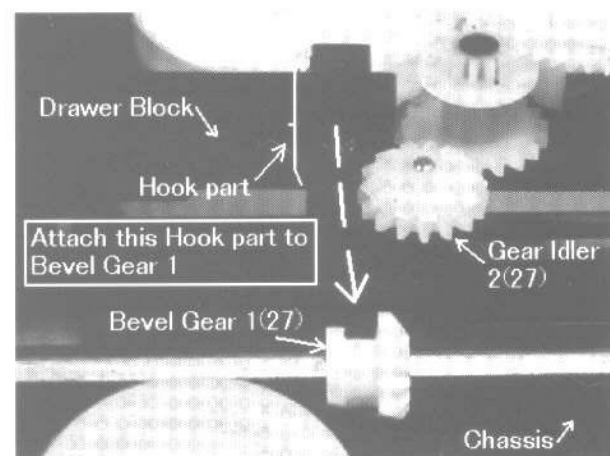

Fig.10
- 8) Move BEVEL GEAR 1(27) to the center of the SHAFT(24).
- 9) First attach the right side hook part of DRAWER block to CHASSIS block and BEVEL GEAR(27) (See Fig. 10). Then move DRAWER block inside as holding its left side up. Fit its left side project into the hole of CHASSIS end.